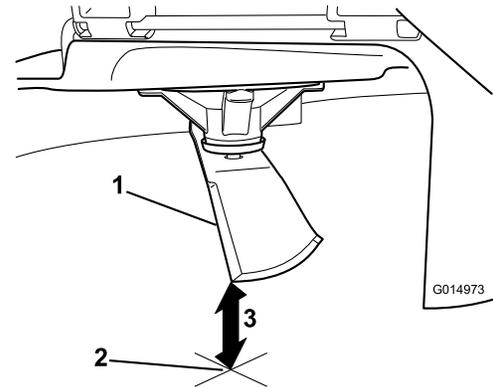

**Figure 51**
3. Measured distance between blade and the surface (A)
4. Rotate the same blade 180 degrees so that the opposing cutting edge is now in the same position (Figure 51).